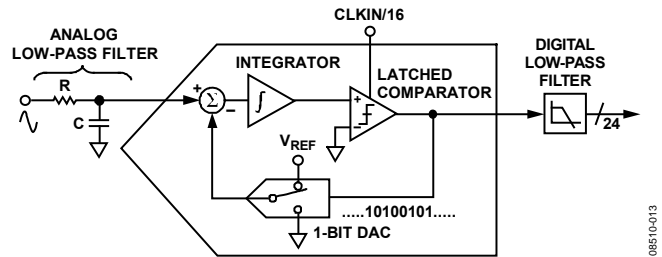
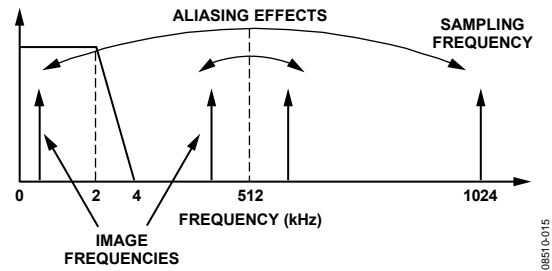

Figure 28. First-Order Σ - Δ ADC
Figure 30. Aliasing Effects
For simplicity, the block diagram in Figure 28 shows a first-order Σ - Δ ADC. The converter is composed of the Σ - Δ modulator and the digital low-pass filter.
Figure 28 also shows an analog low-pass filter (RC) on the input to the ADC. This filter is placed outside the ADE7854/ADE7858/ADE7868/ADE7878, and its role is to prevent aliasing. Aliasing is an artifact of all sampled systems as shown in Figure 30. Aliasing means that frequency components in the input signal to the ADC, which are higher than half the sampling rate of the ADC, appear in the sampled signal at a frequency below half the sampling rate. Frequency components above half the sampling frequency (also known as the Nyquist frequency, that is, 512 kHz) are imaged or folded back down below 512 kHz. This happens with all ADCs regardless of the architecture. In the example shown, only frequencies near the sampling frequency, that is, 1.024 MHz, move into the band of interest for metering, that is, 40 Hz to 2 kHz. To attenuate the high frequency (near 1.024 MHz) noise and prevent the distortion of the band of interest, a low-pass